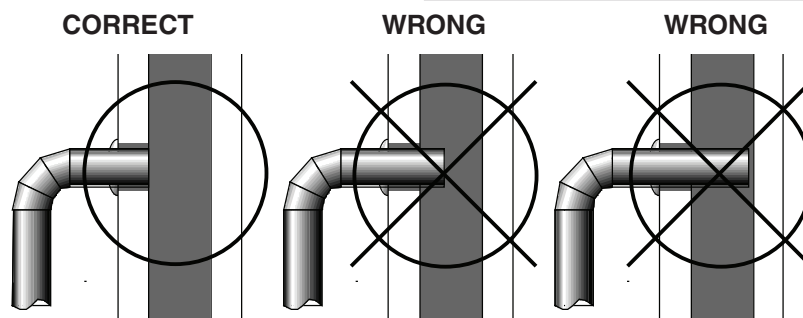

Figure 13 – Stovepipe/Flue Connections
4. The pipe cannot extend into the chimney flue (figure 13).
5. Secure pipe/elbow sections with three (3) sheet metal screws at each joint to make the piping rigid.
6. It is recommended that no more than two (2) 90° bends be used in the stovepipe installation. The use of more than two 90° bends may decrease the amount of draw and possibly cause smoke spillage. Where possible, use only corrugated (non adjustable) elbows. These provide a better seal.
2. Install a metal or fire clay (5/8” minimum thickness) thimble. Make sure the thimble is flush with the inner surface of the chimney liner and does not protrude into the flue (see figure 13 on page 9).
4. Install the stovepipe into the thimble as far as possible without extending past the flue lining (see figures 13 & 15 on pages 9 & 10).